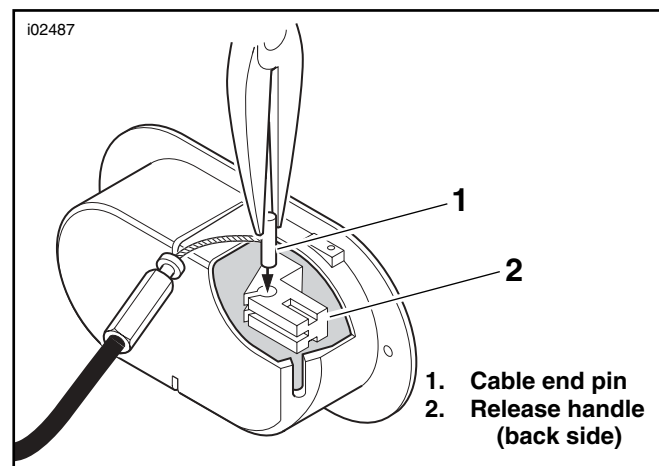

Figure 3. Insert Pin Into Hole In Release Handle
4. Grasp the cable end pin as shown in Figure 3, and guide the pin down into the hole in the back of the release handle until the cable rests on the surface of the handle back.